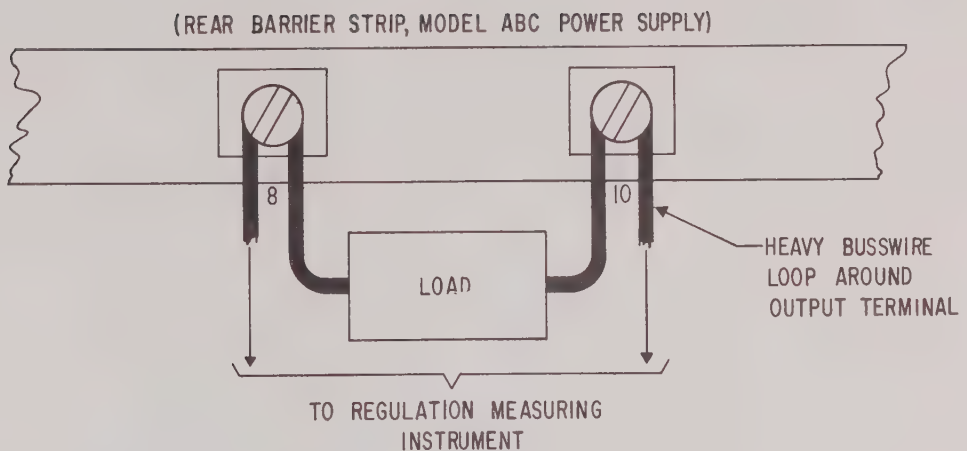

FIG. 5-1 APPROXIMATION OF A FOUR TERMINAL NETWORK
5-6 POWER SUPPLY MEASUREMENTS (Refer to FIG. 5-1 and FIG. 5-2)
- b) The Four Terminal Network is an essential device for precise measurement of regulation. It can be approximated by the method shown in FIG. 5-1, FIG. 5-2 below shows the proper location of instrument leads when measuring regulation. The principle governing this method of measurement is simply not to measure any voltage drops due to load current flow. This can only be avoided by measuring regulation either directly at the sensing leads or by the use of the four-terminal network.